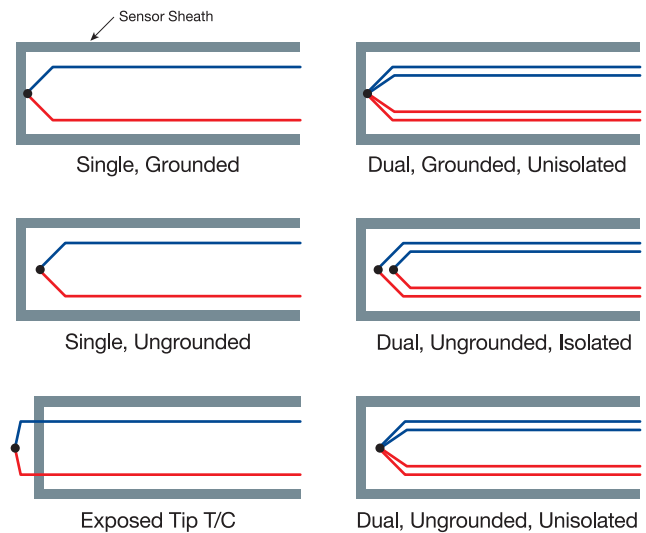

Figure 4-17: T/C Junction Configurations
- Consider a dual element design where redundancy, the Hot Backup feature or Sensor Drift Alert may be a benefit or where the measurement may be connected to two separate systems or devices. Dual elements can be isolated or unisolated configurations. Isolated junctions may not read identical temperatures but can identify drift due to poisoning of one of the elements. If one junction fails, the second junction is not necessarily affected. Un-isolated junctions measure identical temperature to increase the integrity of the measurement point. However, if one junction fails, it is likely that both junctions will fail at the same time. Refer to Figure 4-17.